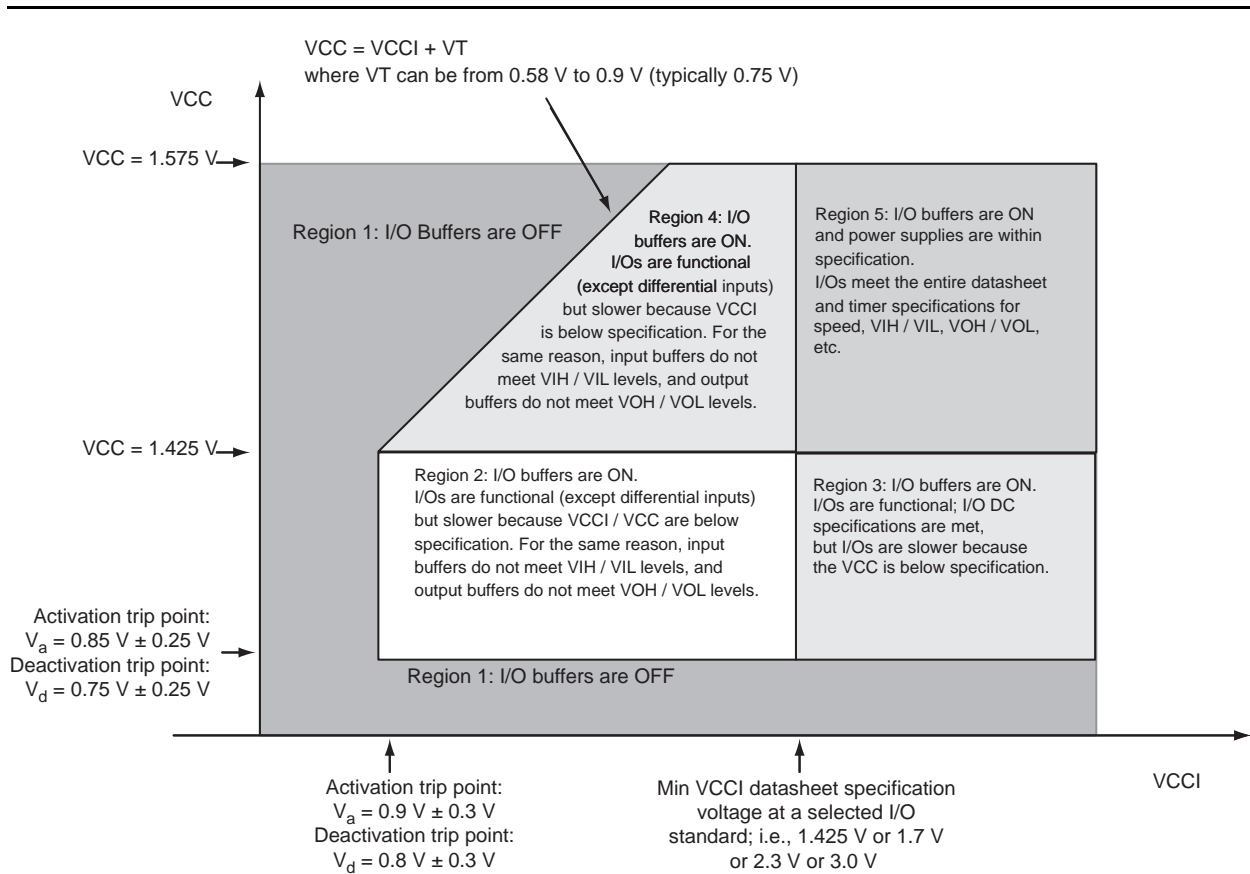
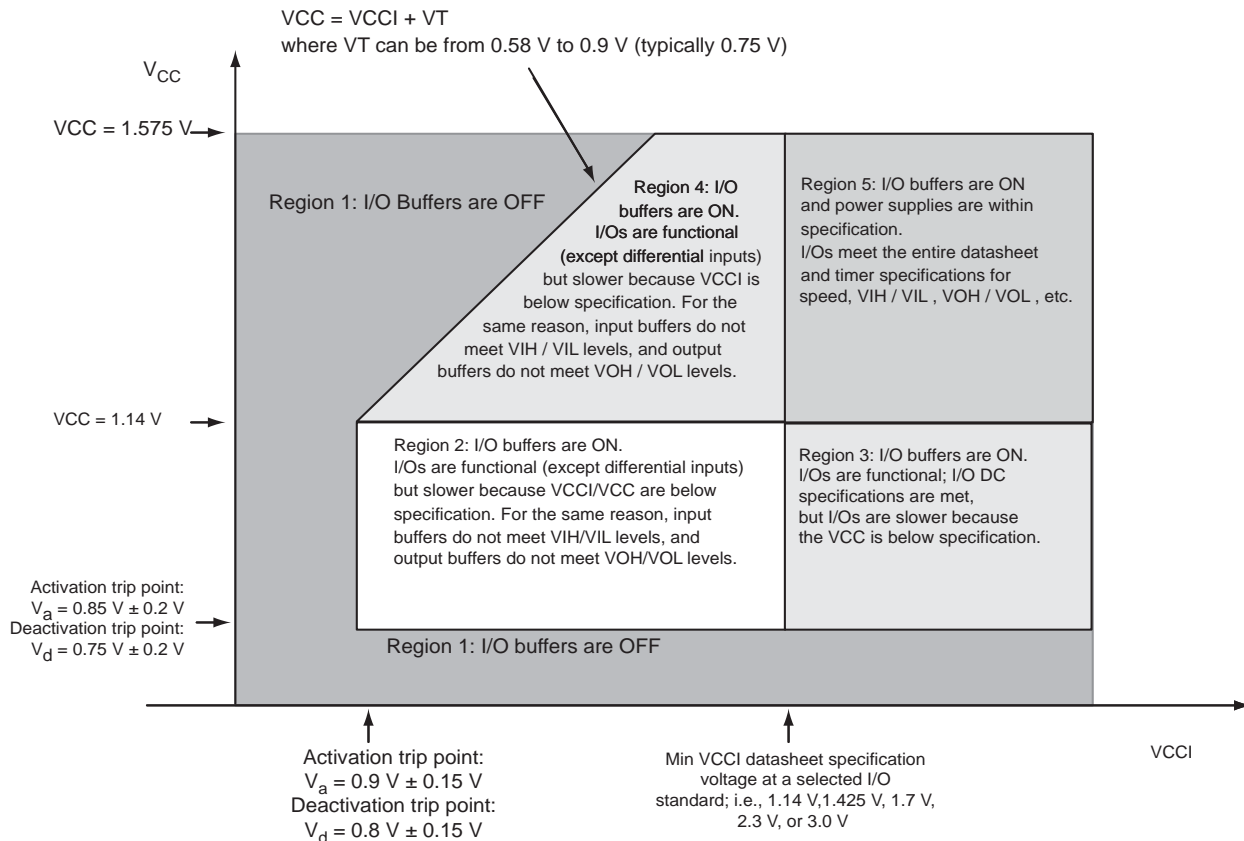

Figure 2-1 • V5 Devices – I/O State as a Function of VCCI and VCC Voltage Levels
Figure 2-2 • V2 Devices – I/O State as a Function of V_{CCI} and V_{CC} Voltage Levels
Sophisticated power-up management circuitry is designed into every IGLOO PLUS device. These circuits ensure easy transition from the powered-off state to the powered-up state of the device. The many different supplies can power up in any sequence with minimized current spikes or surges. In addition, the I/O will be in a known state through the power-up sequence. The basic principle is shown in Figure 2-1 on page 2-4.
1. VCC and VCCI are above the minimum specified trip points (Figure 2-1 and Figure 2-2 on page 2-5).
Actel recommends using monotonic power supplies or voltage regulators to ensure proper power-up behavior. Power ramp-up should be monotonic at least until VCC and VCCPLX exceed brownout activation levels (see Figure 2-1 and Figure 2-2 on page 2-5 for more details).